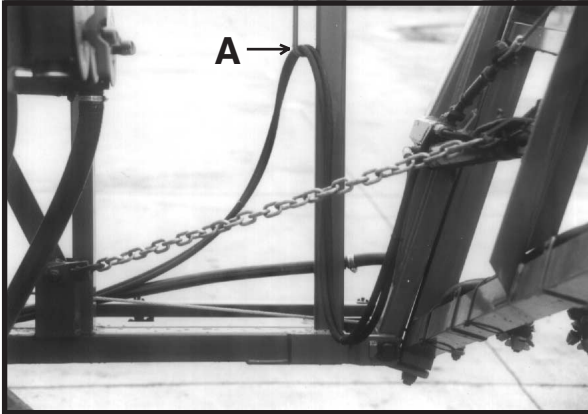

Fig.6
5. Attach safety chain from center section to extended pin on upper end of hydraulic cylinder - Fit locking ring to pin. This will prevent boom sections from accidentally unfolding during installation. (Refer to fig. 6)
1. Route hydraulic hoses to fold cylinders through the hose support bracket (A in fig. 6). (Refer to section 11 for hydraulic schematics)